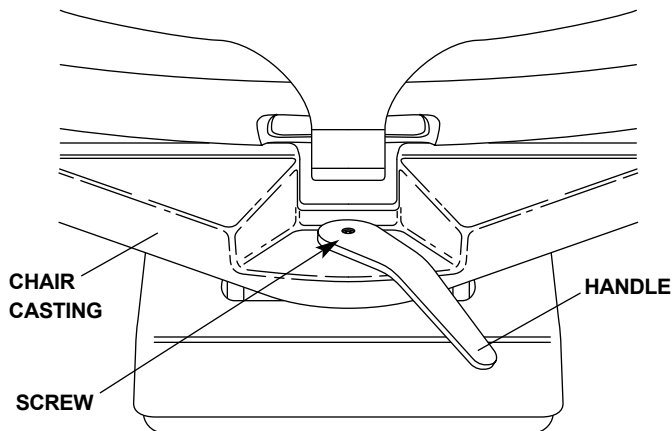

FIGURE 1
1. Use a 3/16" hex key to remove the screw that secures the handle in place (see Figure 1). Discard the screw.